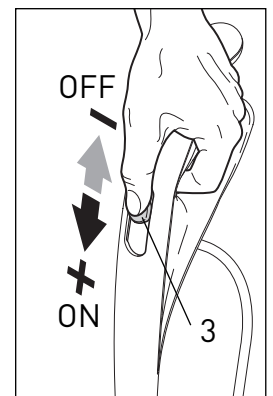

Figure 5
4. Slide the On/OFF switch (3) downward to the ON position - see figure 5.
Operating the Machine - Figures 5 & 6
You may adjust the suction control with the power control slider (3) as you vacuum different surfaces or when using the accessory tools. Slide the button upward for less suction or downward for more suction - see figure 5
You may adjust the suction control with the power control slider (#3, figure 5) as you vacuum different surfaces or when using the accessory tools. For optimal cleaning and brushing, operate the machine at the maximum suction power setting and push the power head slowly over the carpet.